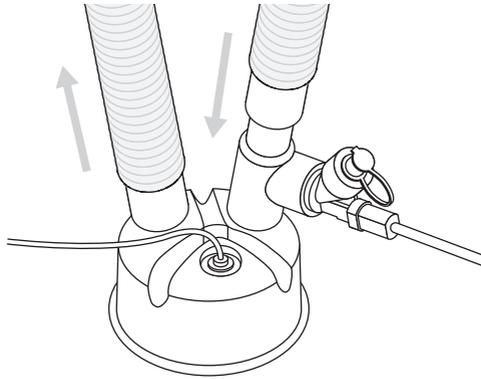

Figure 7. Aeroneb Solo on dry side of humidifier
2. The Aeroneb Solo can be placed on the dry side of the humidifier as shown in Figure 7. The Aeroneb Solo can be used with a nasal interface in this configuration.
The Aeroneb Solo can be used on/off ventilator with a nasal interface when configured with a humidifier (Figure 7).